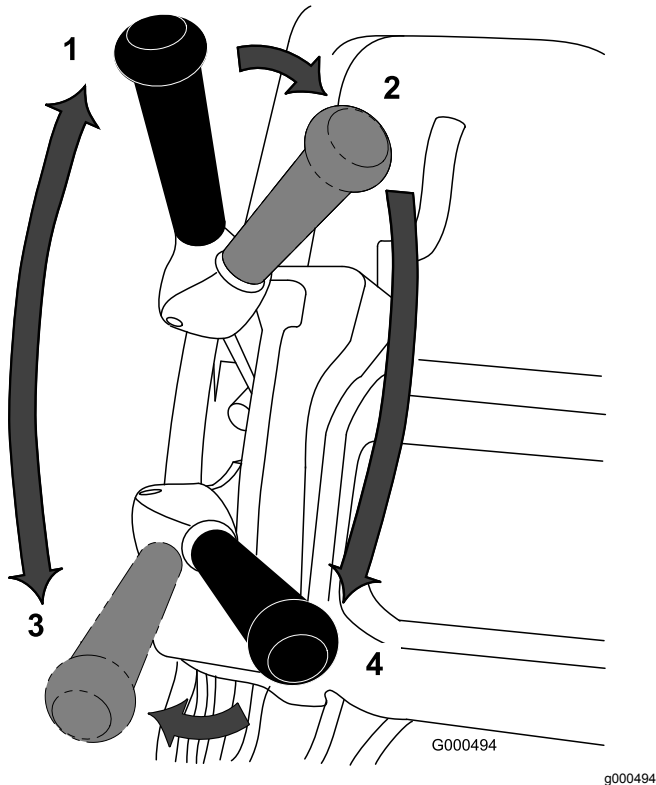

Figure 32
1. Start the engine, set the throttle to a reduced speed, push down on the handle to raise the cutting unit, press the operator-presence control, move the traction and reel-drive engagement lever to the FORWARD (transport) position, and transport the machine onto the collar of the green (Figure 32).
2. Move the lever to the NEUTRAL position (Figure 32).
3. Move the lever to the traction—NEUTRAL and reel drive—DISENGAGE position (Figure 32).
4. Move the lever to the traction—FORWARD and reel drive—ENGAGE position (Figure 32), increase the throttle speed until the machine is traveling at the desired ground speed, drive the machine onto the green, lower the cutting unit to the ground, and begin mowing.